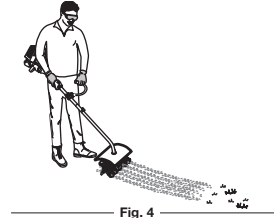

Fig. 4
4. Holding both of the shaft and handle grips firmly, slowly lower the cultivator until the tines make contact with the ground (Figs. 4).